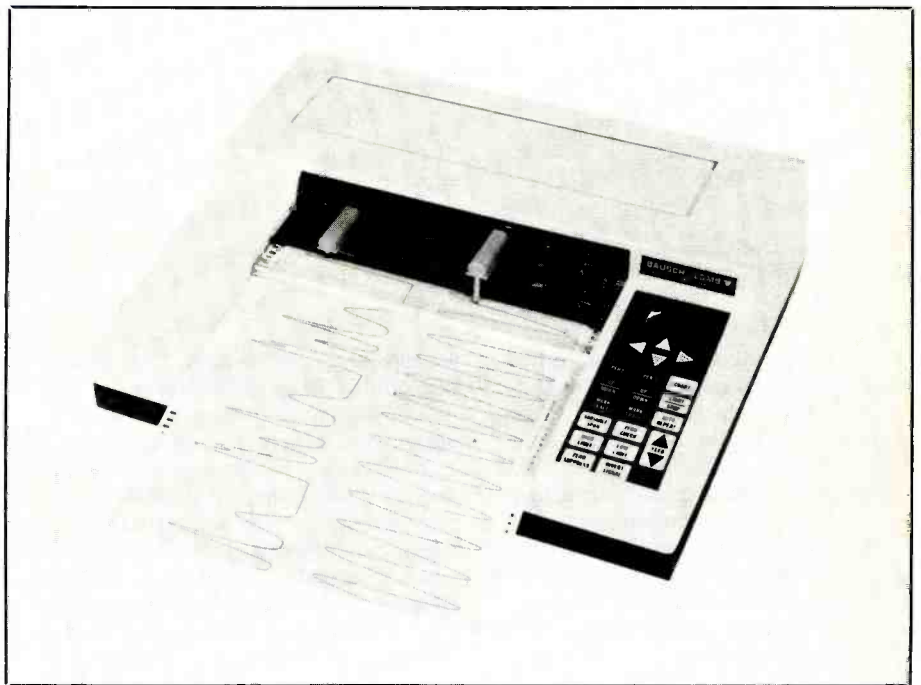

Fig. 1. A conventional two-channel analog chart recorder with a digital control panel. (Photo courtesy Bausch & Lomb.)
•*Strip-Chart Recorders.* The familiar chart recorder, like the two-channel unit shown in Fig. 1, incorporates a motor-driven mechanism that pulls a continuous sheet of roll paper past one or more recording pens. The pens swing back and forth across the paper, inscribing traces by means of ink, heat or pressure.